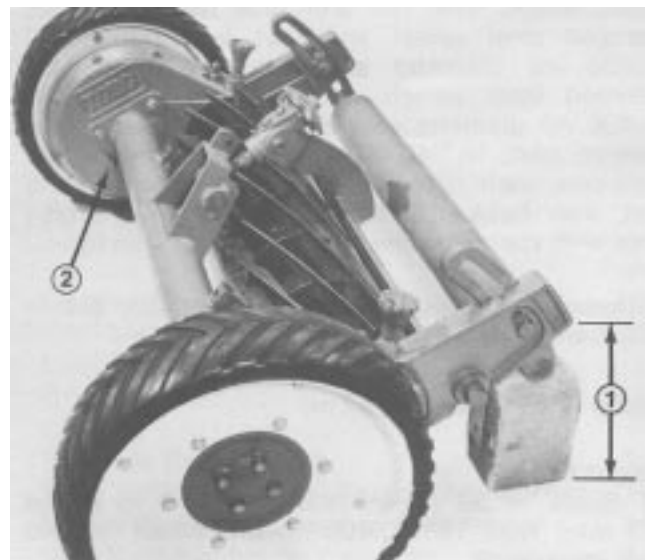

Figure 3
2. Raise and block back of mower until there is approximately 10–1/4 inches (0.260 m) between bottom of gear case extending behind roller bracket and level surface (Fig. 3).
3. Remove filler plug from inside of each gear case (Fig. 3). Check oil level in gear case: it should be level with bottom of filler hole. If oil is level with bottom of hole, reinstall filler plug.